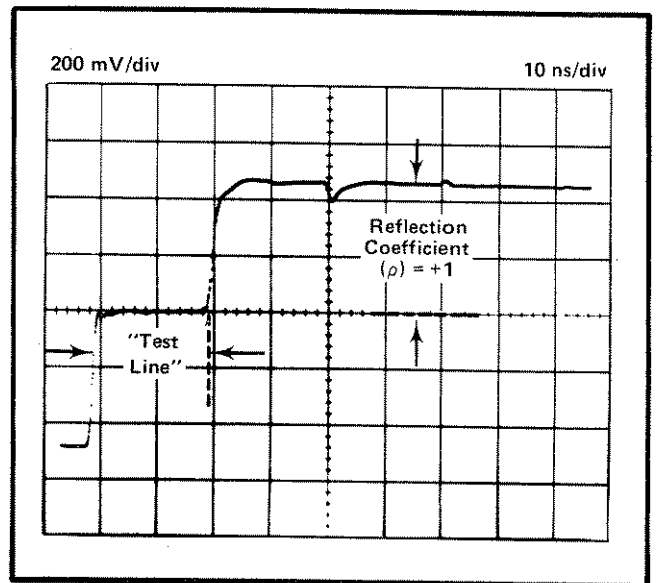

Fig. 2-3. Display with unterminated Test Line.
14. Add a short length of 50 Ω coaxial cable to the tee connector. (Example uses two 42 inch coaxial cables for a total of about 84 inches in length.) See Fig. 2-3. The open line shows a reflection coefficient (ρ) of about +1.